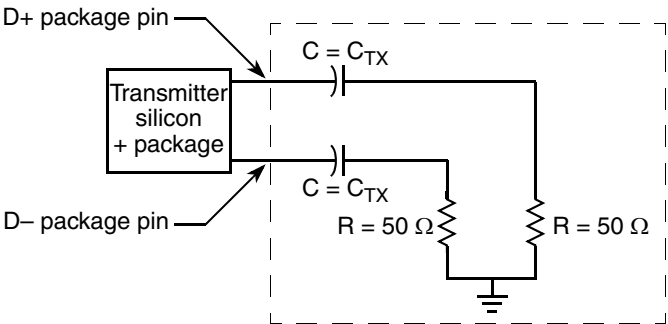

Figure 43. Test/Measurement load
2. Specified at the measurement point into a timing and voltage test load as shown in Figure 43 and measured over any 250 consecutive transmitter UIs.
2. Specified at the measurement point and measured over any 250 consecutive UIs. The test load in Figure 43 should be used as the receiver device when taking measurements. If the clocks to the receiver and transmitter are not derived from the same reference clock, the transmitter UI recovered from 3500 consecutive UI must be used as a reference for the eye diagram.
The AC timing and voltage parameters must be verified at the measurement point. The package pins of the device must be connected to the test/measurement load within 0.2 inches of that load, as shown in Figure 43.